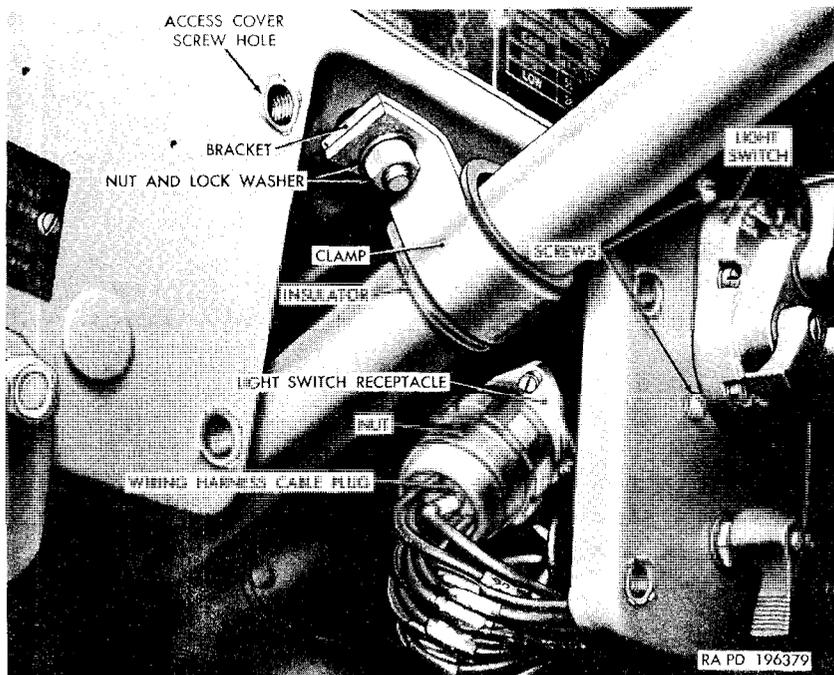

Figure 146. Steering column access cover removed.
- (1) Remove the four screws and lockwashers that attach the steering column access cover to the instrument panel and remove the cover.
- (2) Unscrew the nut that retains the waterproof grommet to the light switch receptacle (fig. 146) and remove the wiring harness cable plug from the receptacle. If the light switch is provided with the trailer coupling receptacle, disconnect the trailer coupling wiring harness in the same manner.
- (3) Remove the four screws and lockwashers that secure the light switch to the instrument panel. Remove the light switch by pushing it through the panel and removing it from beneath the panel.
- (1) Install the light switch (fig. 146) from the under side of the instrument panel. Secure with four No. 10 lockwashers and No. 10-32NF x 1/2 roundhead screws.
- (2) Install the wiring harness cable plug in the light switch receptacle, and screw the grommet retaining nut to the receptacle. If the switch is provided with a trailer coupling receptacle, connect the trailer coupling wiring harness in the same manner.
- (3) Install the steering column access cover on the instrument panel with the four lockwashers and screws, being careful to position the cover in such a manner that it does not cause binding at the steering column.